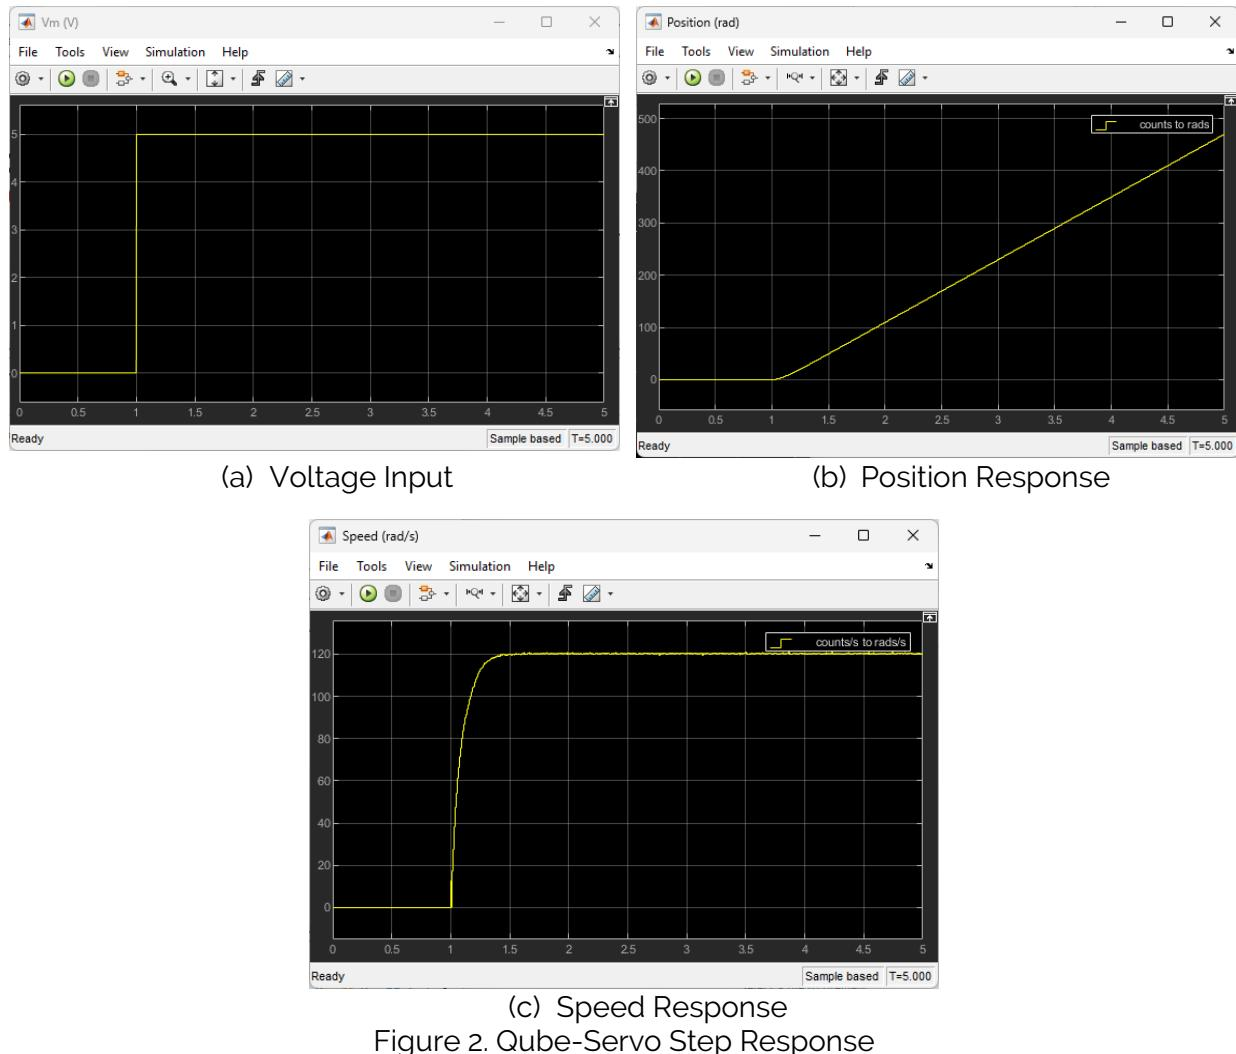

Figure 2. Qube-Servo Step Response
4. Run the QUARC controller using the Run  button on the Simulation tab. The model will run for 5 seconds and then stop. The response from the 3 scopes should be similar to Figure 2.